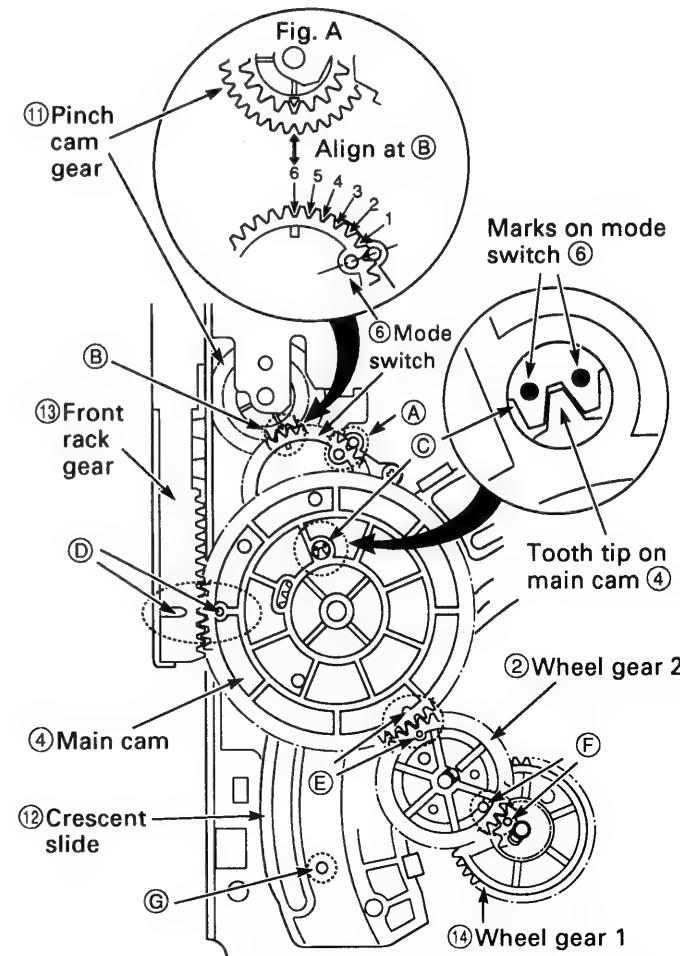
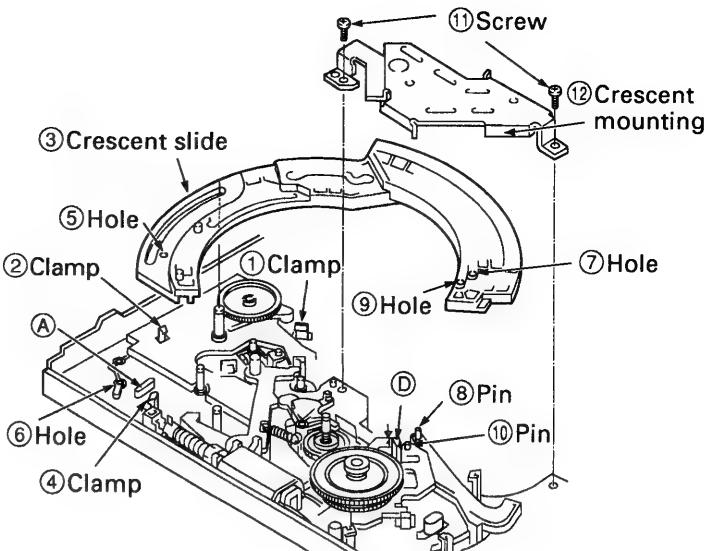
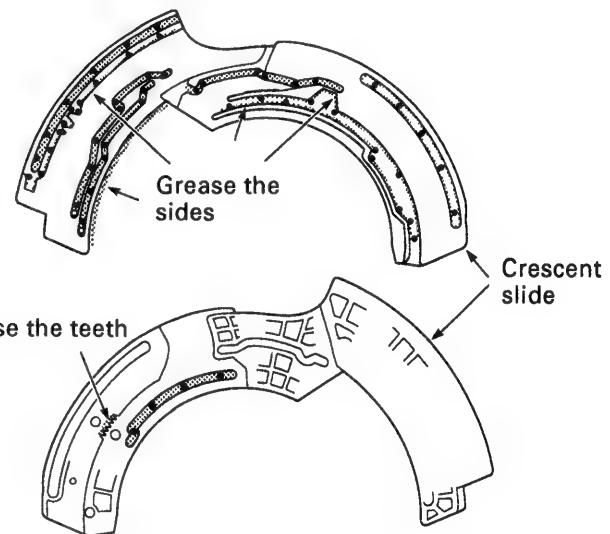

Fig.3-15-2
Fig.3-16-1
Fig.3-16-2
1. Apply grease (VHJ-0100) to the shafts ⑧, ⑨ and ⑩, to the teeth of the main cam ④, and to the all over the cam groove of main cam ④.
2. When fitting the mode switch ⑥, align it in ⒶⒷ order as shown in Fig.3-15-2. The alignment of the part ⑧ is shown in Fig. A. Position the teeth of the mode switch ⑥ so that the sixth tooth space left of part Ⓐ is aligned with the triangular mark on the pinch cam gear ⑪. After aligning part Ⓑ, refer to section 3-9-2 and check the positioning of the mode switch, the pinch cam gear and the pinch lift cam.
4. Align the hole in the crescent slide ⑫ with the hole in the mechanism chassis, as shown at point ⑥ in Fig.3-15-2 (refer to section 3-16 and see the holes⑤ and ⑥ in Fig.3-16-1).
5. When fitting the main cam ④, position the mode switch ⑥ and the front rack gear ⑬ as shown at points ⑧ and ⑨ respectively in Fig.3-15-2.
6. When fitting the gear wheel 2 ②, position the main cam ④ and the wheel gear 1 ⑭ as shown at points ⑩ and ⑪ respectively in Fig.3-15-2.
(See Figs.3-16-1 and 3-16-2)
1. Apply grease (VHJ-0100) to the points ④, ⑤, ⑥, ⑦, ⑧, ⑨, ⑩ and ⑪ in Fig.3-16-1, and to the crescent slide ③ shown in Fig.3-16-2.